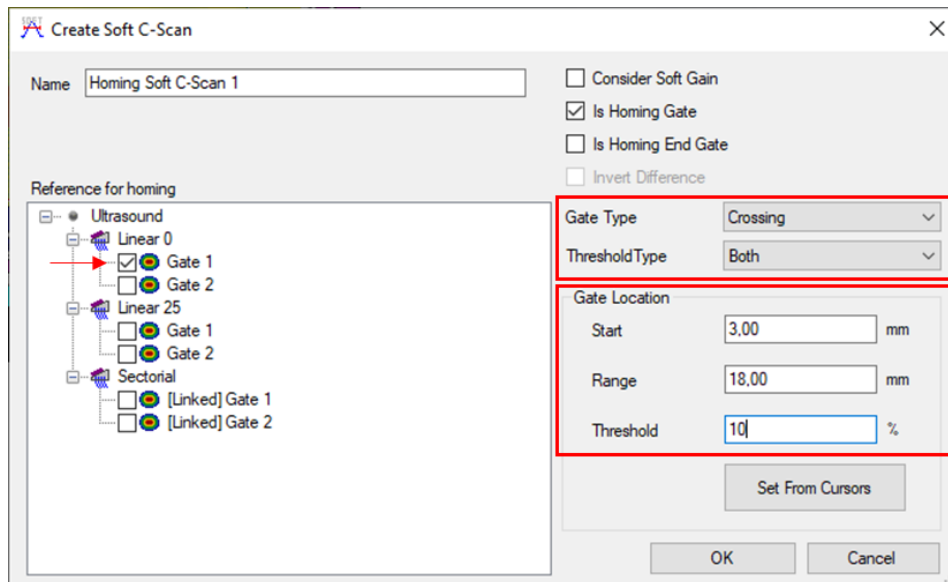

Figure 27: Configuring Homing Soft C-scan parameters
- In Figure 27, the user requests the Soft C-Scan Gate to start 3,00 mm after the position of the triggering signal in the reference gate (**Gate 1**)